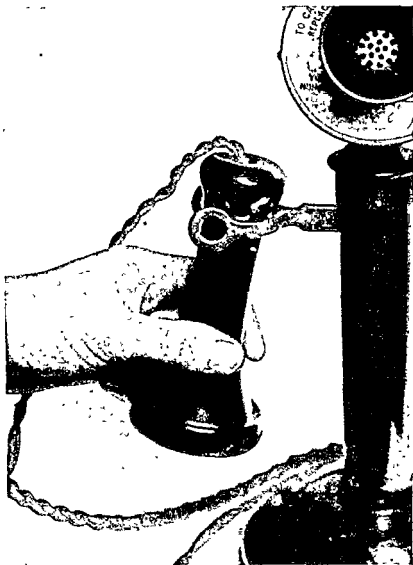

FIG. 3 (B)
On making the model go through the complete operation of receiving a message, the error in Fig. 3 (A) immediately became apparent